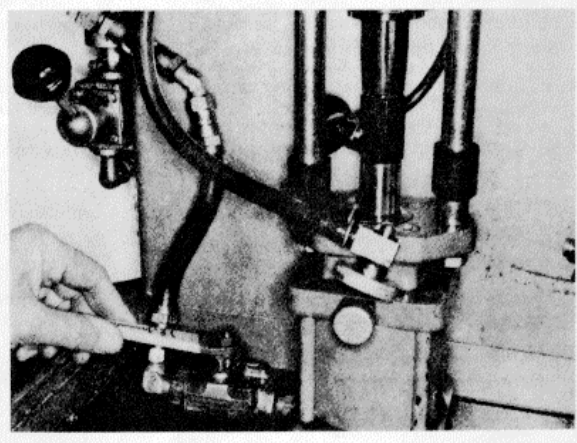

Figure 16H-92. Closing the Hydraulic Valve to Clamp the Injector
14. Adjust the fuel pressure by turning the regulator knob until the pressure gauge shows 120 psi (827 kPa). If this pressure cannot be achieved, the trouble is probably due to a sticking regulator, or to a worn gear pump, Figure 16H-93. Pressure [120 psi (827 kPa) must be maintained at all times during the calibration and testing.